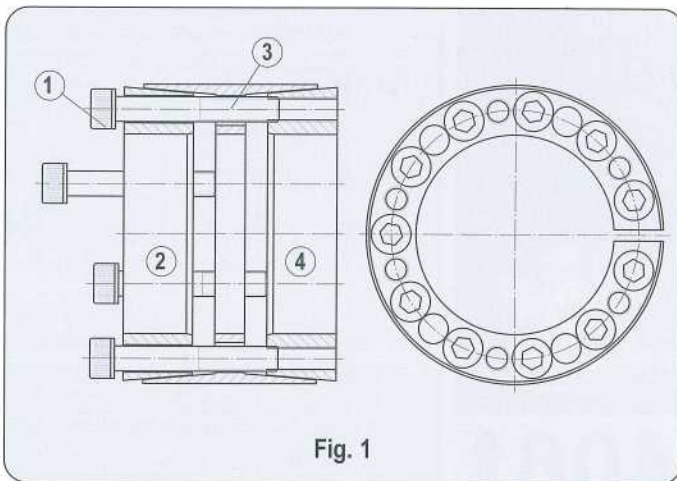

Fig. 1
- 2 - Loosen all screws by minimum 2 turns and transfer at least 2 screws to push off threads in clamp collar item [2] and center collar item [3] in order to disengage tapers for easy installation of locking assembly (see fig. 1).